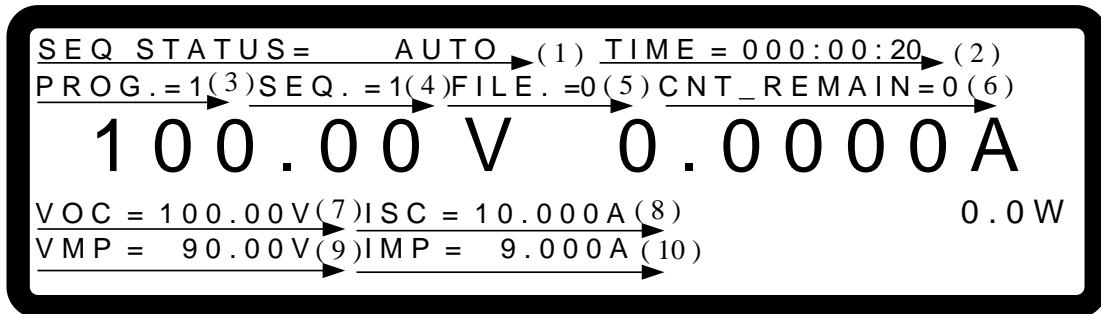

Figure 4-32
When the IV PROGRAM is running, the main screen will display the following information. Items (1) - (10) in Figure 4-32 are described below.